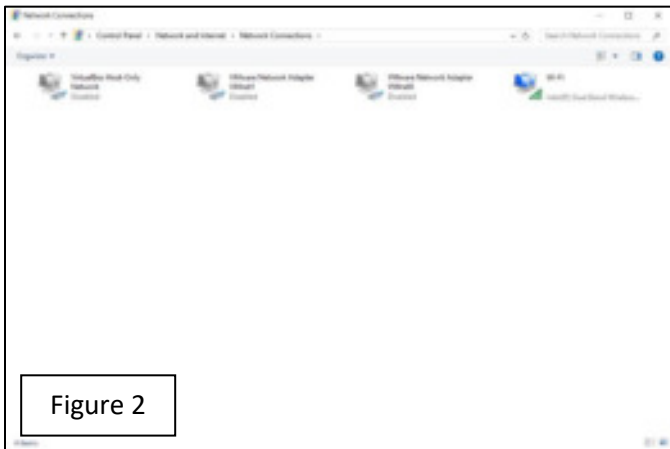

Figure 2
2. Select “Network and Internet” or “Network and Sharing Center,” then select “Network Connections” and the screen should look like Figure 2.